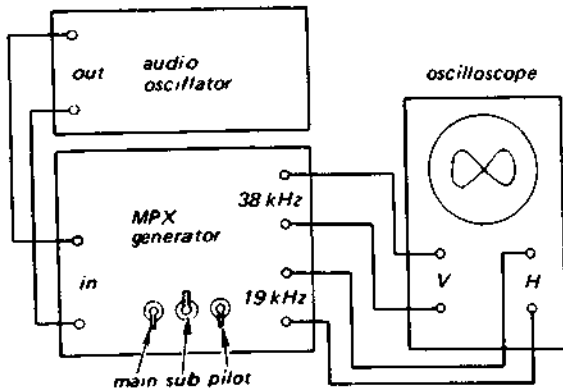

Fig. 3-5. MPX generator preadjustment
1. With the equipment connected as shown in Fig. 3-5, set the MPX and audio signal-generator controls as follows: